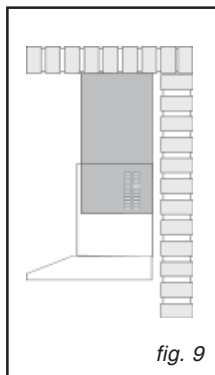

fig. 9
- For ducting hoods, turn the upper flue over so that the air exhaust grid is in the lower section (fig. 9).